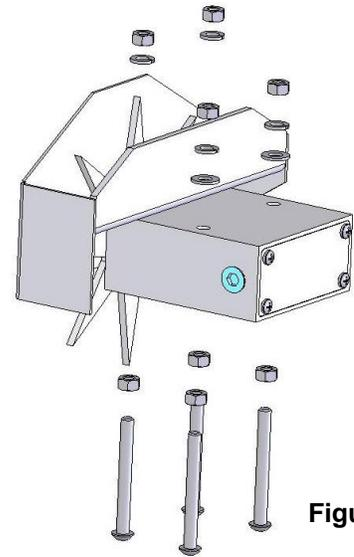

Figure 2
3. Install the eight (four per side) 5/16" X 3" Allen head cap screws. Make sure the Allen heads are in the bale chamber. Secure using 5/16" hex nuts (Figure 2).